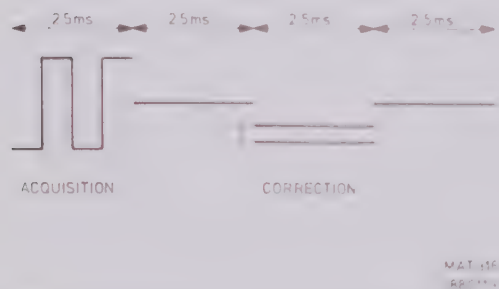

Figure 9.6 Correction adjustment.
- The screen of the measuring oscilloscope shows the signal of figure 9.6. Adjusting R8319 (R8359 for ch. B) influences one of the two lines marked with a and b. Adjust this line on the vertical mid of the screen.